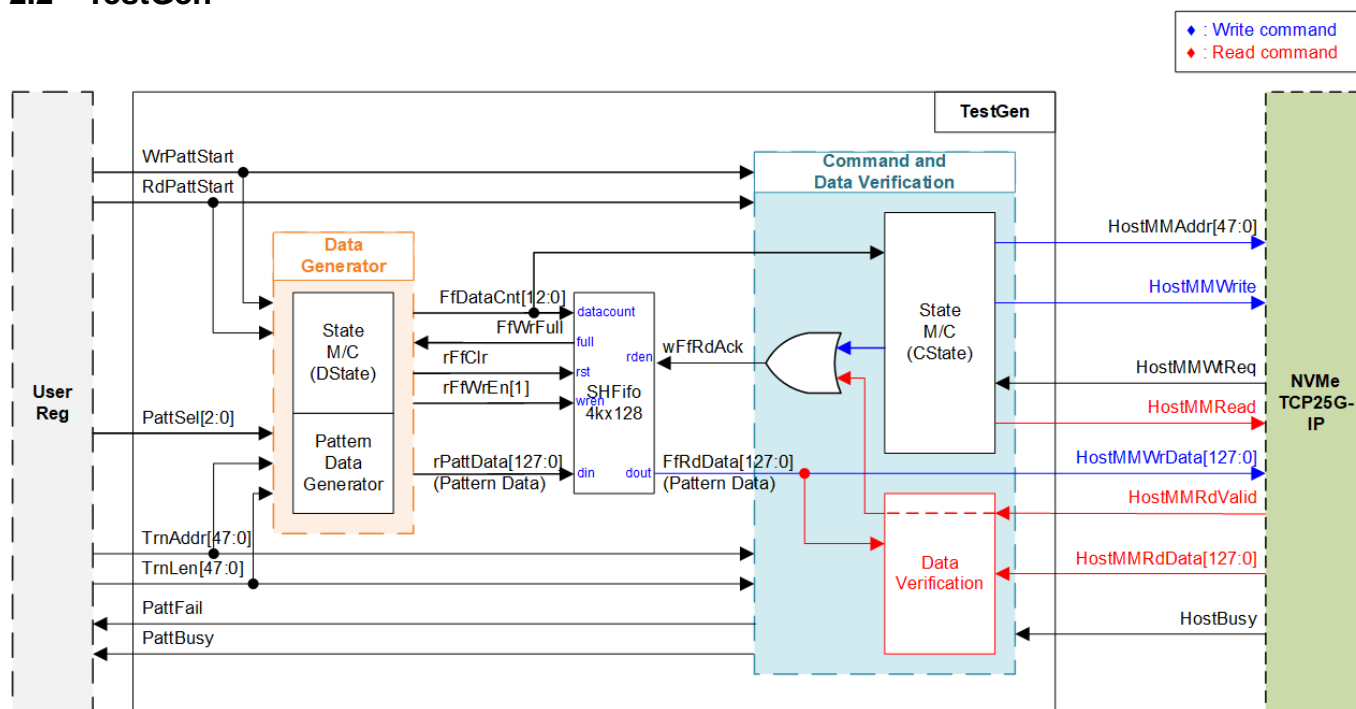

Figure 2-2 TestGen Interface
- (1) stCIdle: This state is designed to wait Write or Read Request (WrPattStart or RdPattStart) from user. When user starts the test along with test parameters, i.e., total transfer size (TrnLen: 512-byte unit), start transfer address (TrnAddr: 512-byte unit), and test pattern (PattSel), the logics load the first value from test parameters. Moreover, PattBusy is asserted to '1' to indicate that the test is running. If user starts the reading test by asserting Read Request (RdPattStart), state continues to stCRdTrn (2). On the other hand, if user starts the writing test by asserting Write Request (WrPattStart), state continues to stCWrWt (3).
- (2) stCRdTrn: In this state, Read Command (HostMMRead) is sent to NVMeTCP25G-IP in HostMM interface along with the start read address (HostMMAddr) of each 8-Kbyte transferring. After sending the last Read Command, state continues to stCWtEnd (6) to wait until all read data is returned and IP finishes the operation.
- (3) stCWrWt: This state is designed to wait until data is enough in FIFO via checking FIFO Data Counter (FfDataCnt). If the data in FIFO is more than or equal to 8 Kbytes (1 burst size), state continues to the next step.
- (4) stCWrTrn: This state is designed to read 8-Kbyte FIFO data and send them out as Write Data (HostMMWrData) to NVMeTCP25G-IP along with the Write Command (HostMMWrite). When write command and write data are received (HostMMWrite='1' and HostMMWtReq='0'), FIFO Read Enable (wFfRdAck) is asserted to read the next data from FIFO. The FIFO Read Data (FfRdData) is bypassed to be HostMMWrData (as shown in Figure 2-2). At the first clock cycle of this state, the first 128-bit Write Data (HostMMWrData), the address (HostMMAddr), and Write Command (HostMMWrite) are sent to the IP. After the 511th of 128-bit Write Data (HostMMWrData) is sent to the IP, state continues to the next step.
- (5) stCWrChkFf: This state is designed to send the last 128-bit Write Data (HostMMWrData) of the current 8-Kbyte transferring. Moreover, state machine checks data amount in FIFO via checking FIFO Data Counter (FfDataCnt) for next 8-Kbyte bursting decision. After the last 128-bit Write Data (HostMMWrData) of the current 8-Kbyte transferring is sent, state exit choices are considered as follows.
- a. If the current 8-Kbyte Write Data is not the last 8 Kbytes of the Write Command and data amount in FIFO is not enough for the next round, state continues to stCWrWt (3) to wait until Data Generator fills more data to the FIFO. This state transition triggers the logics to de-assert Write Command (HostMMWrite) to '0'.
- b. If the current 8-Kbyte Write Data is not the last 8 Kbytes of the Write Command and data amount in FIFO is enough for the next round, state continues to stCWrTrn (4). This state transition allows the logic to start sending the next 8-Kbyte data continuously after finishing transferring current 8-Kbyte data without de-asserting Write Command (HostMMWrite) to '0'.
- c. If the current 8-Kbyte Write Data is the last 8 Kbytes of the Write Command (indicated via rMMLenCnt), state continues to stCWtEnd (6). Also, Write Command (HostMMWrite) is de-asserted to '0' to end the writing test.
- (6) stCWtEnd: This state is designed to wait until the writing or reading test is done. TestGen waits until NVMeTCP25G-IP finishes its internal processes by monitoring the IP busy flag (HostBusy) with Flip Flop. When HostBusy with Flip Flop is '0' in this state, PattBusy is de-asserted to '0' to notify user that the test is done. State returns back to stIdle (1).